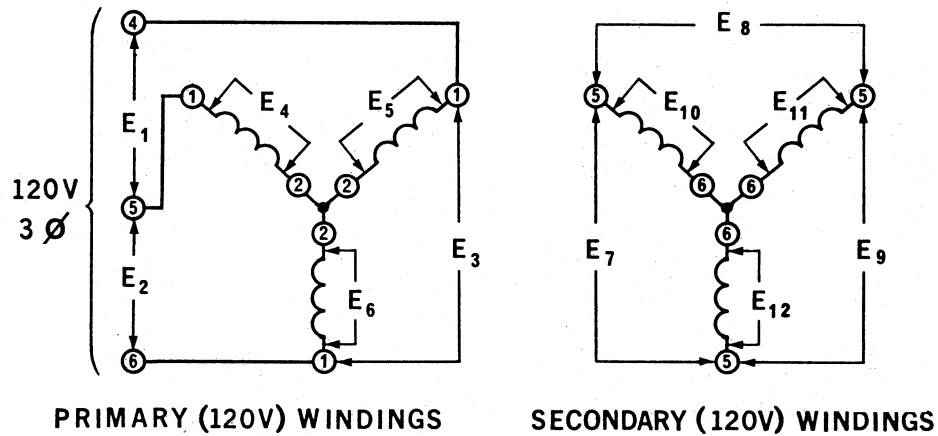

Figure 48-5.
- 1. a. The circuit shown in Figure 48-5 has three transformers connected in a _____ configuration.